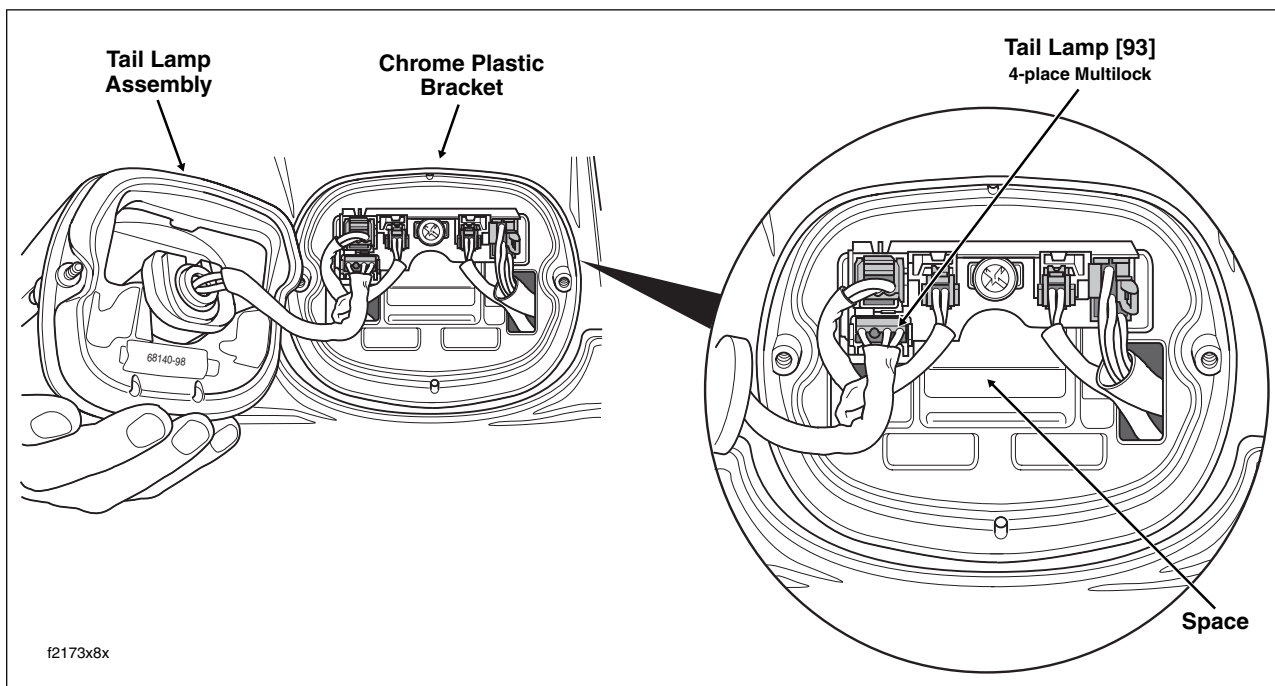

Figure 8-38. Remove Tail Lamp and Depress Button to Release Socket
1. Remove two Phillips screws from lense to release tail lamp assembly from chrome plastic bracket at back of rear fender. Carefully pull tail lamp assembly from bracket. See left side of Figure 8-38.
2. Depress button at bottom of 4-place Multilock socket to release tail lamp assembly from pin housing. See right side of Figure 8-38.
2. Place tail lamp into position against chrome plastic bracket tucking conduit into space below pin housing screw. See right side of Figure 8-38.
7. To avoid stressing wires, verify that tail lamp conduit is positioned on the outboard side of the rear fender tip lamp and left turn signal lamp conduit as shown in Figure 8-38.